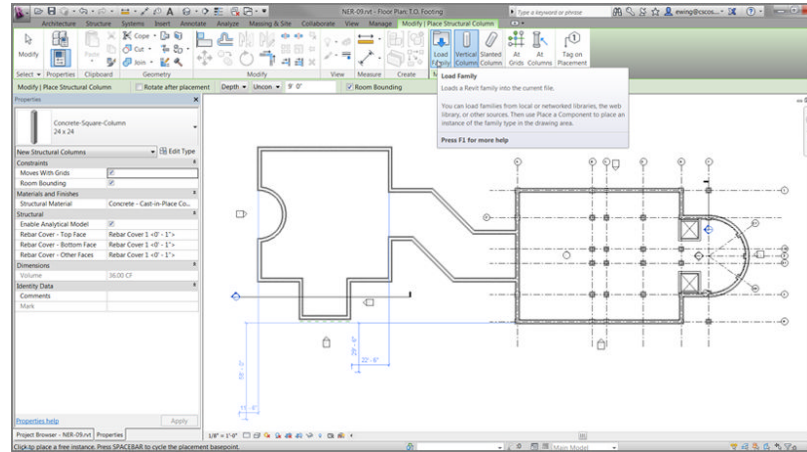

FIGURE 8.67: Starting to place piers
3. On the Insert tab, click the Load Family button, as shown at the top of Figure 8.67.
8. Begin placing columns at the grid intersections, as shown in Figure 8.67. Using At Grids can speed up your work.